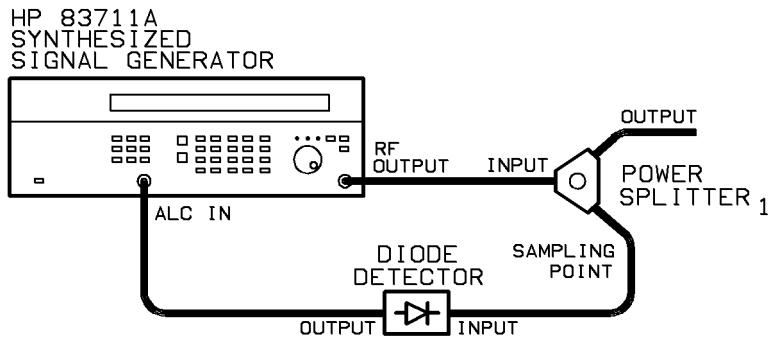

Figure 3-2. External Diode Detector Leveling Setup
1. Connect the equipment as shown in Figure 3-2: